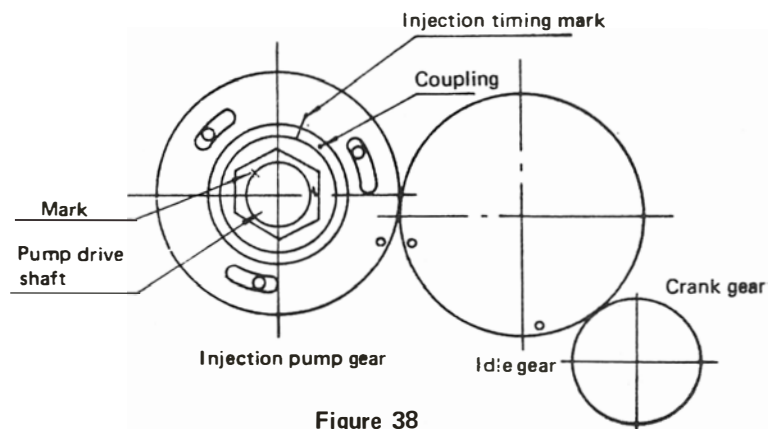

Figure 38
24. Align the injection pump gear mark with the idler gear mark by turning the crankshaft counter-clockwise. Align the injection pump coupling with the slash (/) mark on the injection pump gear, see Figure 38, and tighten the bolts.
- c. Align the injection pump drive shaft mark with the elongated hole in the injection pump gear which is opposite the injection pump-to-idler gear timing mark, Figure 38.
- g. Using a chisel, inscribe a injection timing mark on the injection pump gear and coupling as shown in Figure 38.